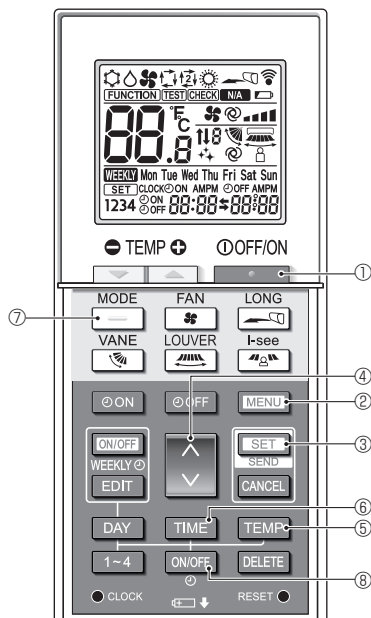

Fig. 6-9
1. Press the **★** button ① to stop the air conditioner.
2. Press the **SET** button ③ in 5 seconds. Model setting screen will be displayed.
3. Press the **←** button ⑦. Operation mode Ⓐ blinks. (Fig. 6-9)
4. Press the **↓** button ④ to change setting No.
5. Check that setting No. "6" is displayed and only blink at operation mode Ⓐ, then press the **SET** button ③ in 5 seconds.